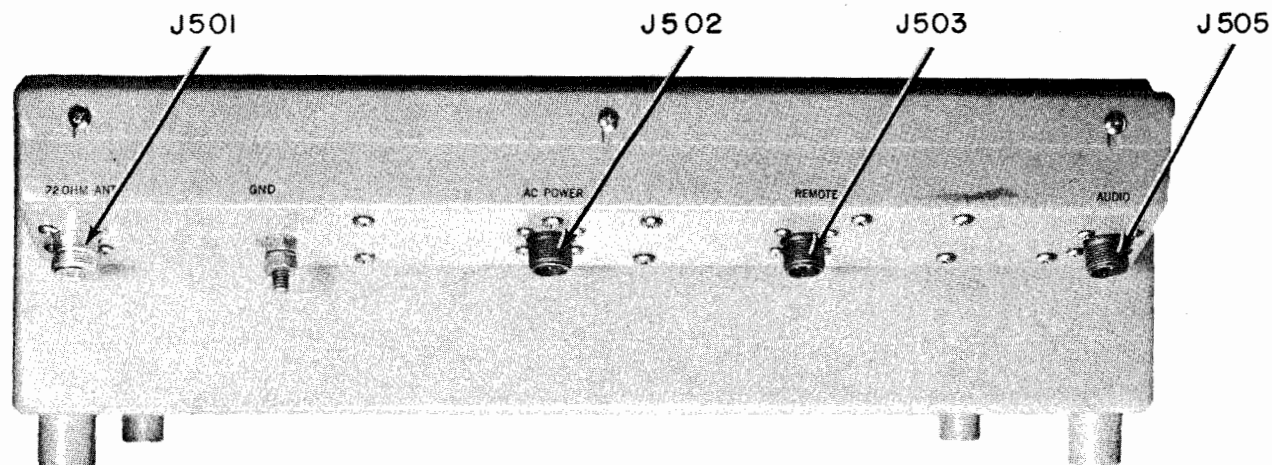

Figure 1-3. Rear View, Radio Receiver, Showing Rear Compartment with Connector Receptacles
b. REAR COMPARTMENT.—This unit as illustrated in figure 1-3 is permanently mounted to the rear of the receiver case. To obtain access to the compartment,